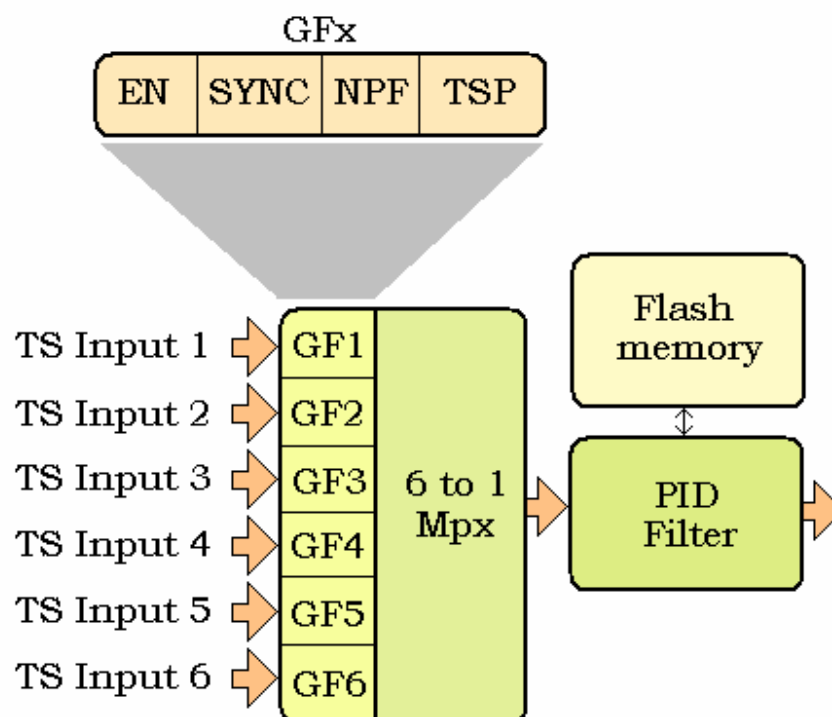

Figure 8. The General Filters and the PID Filter
Each TS input has an own General Filter unit. The General Filters are parts of the 6 to 1 Multiplexer module (Figure 8). The General Filter can enable or disable the TS input (EN) and it finds the sync (SYNC). The General Filter can remove from the stream the null packets (NPF) and packets with TSP Error indicator set to 1 (TSP). The filtering properties can be set using the SETGENERALFILTER instruction.